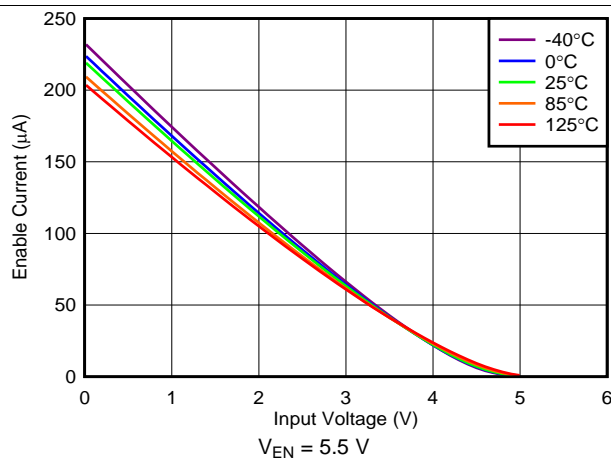

Figure 23.  $I_{EN}$  vs  $V_{IN}$
The EN pin is independent of the input pin (IN), but if the EN pin is driven to a higher voltage than  $V_{IN}$ , the current into the EN pin increases. This effect is illustrated in Figure 23. When the EN voltage is higher than the input voltage there is an increased current flow into the EN pin. If this increased flow causes problems in the application, sequence the EN pin after  $V_{IN}$  is high, or to tie EN to  $V_{IN}$  to prevent this flow increase from happening. If EN is driven to a higher voltage than  $V_{IN}$ , limit the frequency on EN to below 10 kHz.